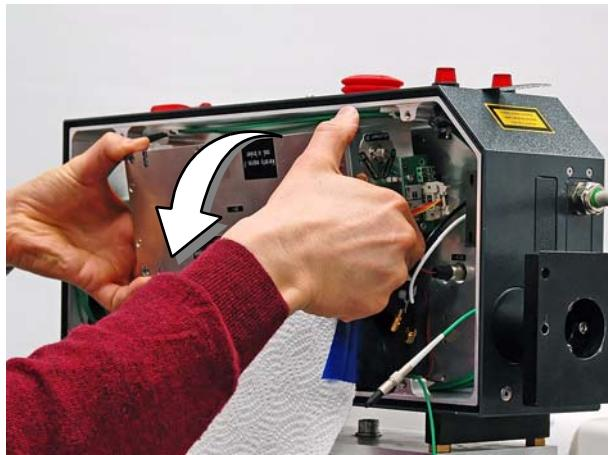

Figure 8.39 Removing the resonator module
27. Pull the resonator module off the alignment pins and then tip it out as shown in Figure 8.39 to prevent the cooling water remaining in the resonator module from spilling. In the process, secure the fastening screws from falling out as well.